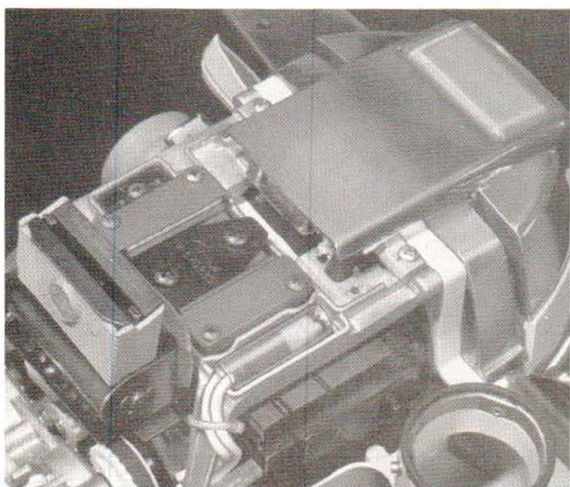

Figure 5. Headlight Cap/Slide Bracket Assembly/Handle Pivot Assembly (Rear)
- A. See Figure 5. One of the headlight leads has an in-line connector covered by a clear piece of insulating tubing.